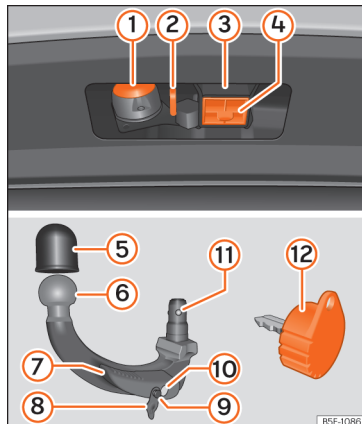

Fig. 169 The towing device supports trailers / tow hook / key
- The top part of the hook housing is greased » Fig. 169 ③. When using the device, make sure that it has not been removed.
- Remove the hook housing cap » **Fig. 169 ④** downwards.
- Fit cover (4) »»» Fig. 169 onto its housing.